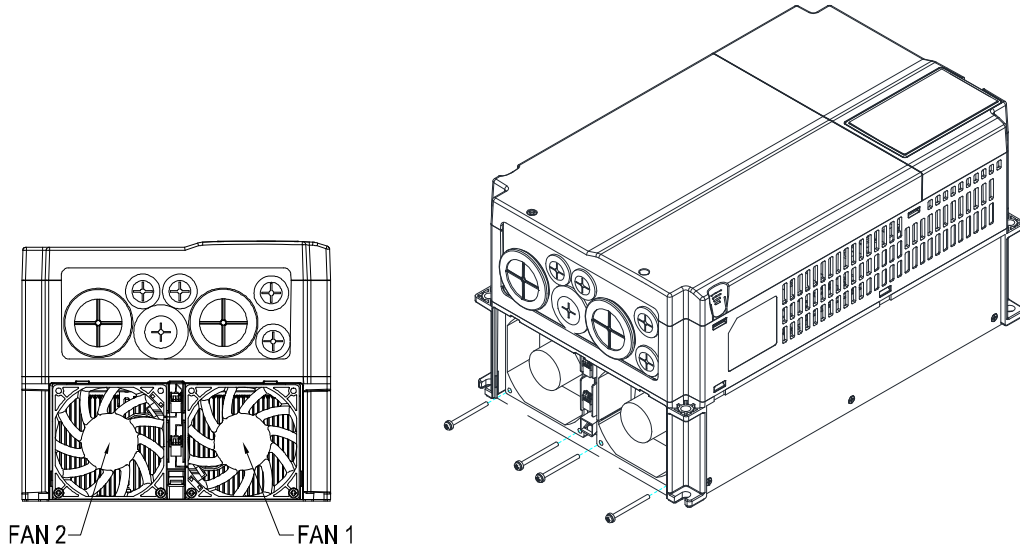

Figure 2
2. (As shown in Figure 2), remove the power connector, loosen the screw and remove the fan kit. When installing the fan kit, have the label on the fan kit facing inside of the motor drive. Screw's torque force: 10~12 kg-cm / [8.7~10.4 lb-in.] / [1.0~1.2 Nm]